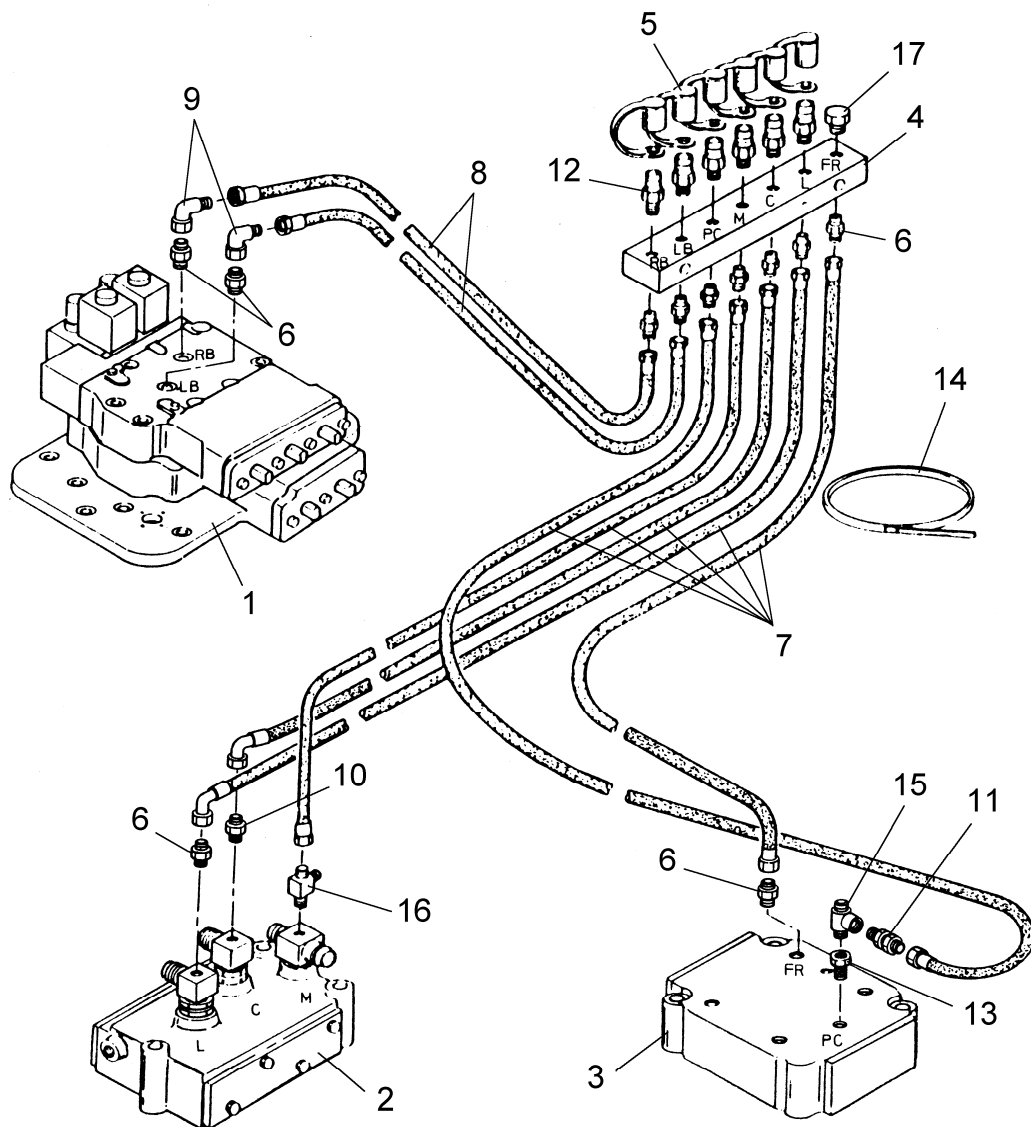
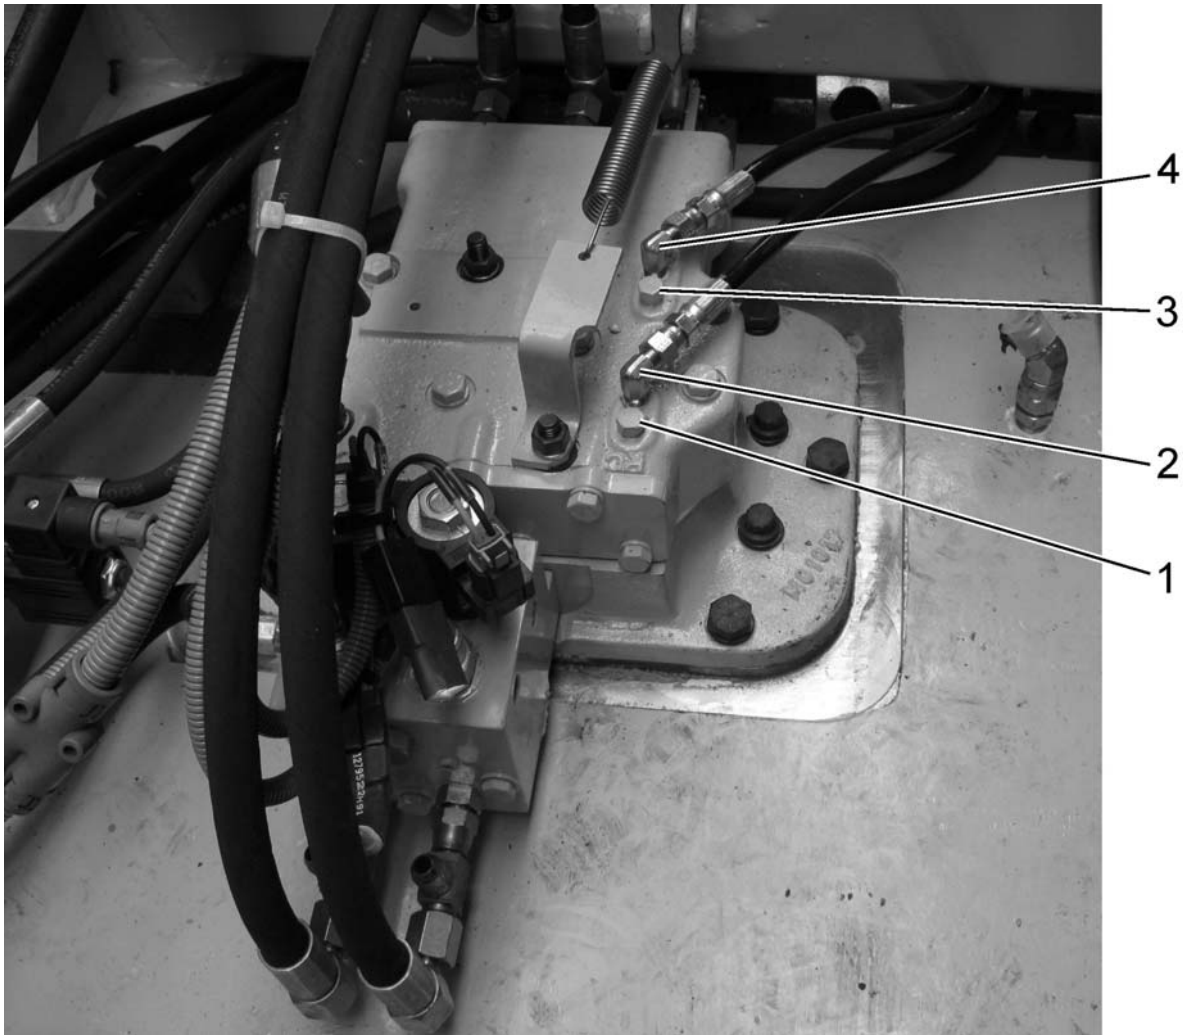

Fig. 7.7. Pressure Gauge Connect Points
Fig. 7.8. Pressure Gauge Connect Points
10. TRANSMISSION AND TORQUE CONVERTER OIL PRESSURE TEST (Refer to Fig. 7.7)
1. Open the door at the left hand side of the platform. Remove the protective covers from quick disconnect fittings and connect the Test Pressure Gauges Kit (refer to SERVICE /SPECIAL TOOLS) to the pressure regulator valve (quick disc. fittings M, C and L) and range selector valve (quick disc. and plug fittings PC and FR) ports shown in Fig. 7.7.
2. Connect the Test Pressure Gauges Kit (refer to SERVICE /SPECIAL TOOLS in this Section) to right and left brake quick disconnect fittings (RB and LB, Fig. 7.7) on the diagnostic center and to the RC and LC test ports (1 and 3, Fig. 7.8) on the steering valve. Tag each test gauge with the corresponding description to avoid confusion when performing these checks.